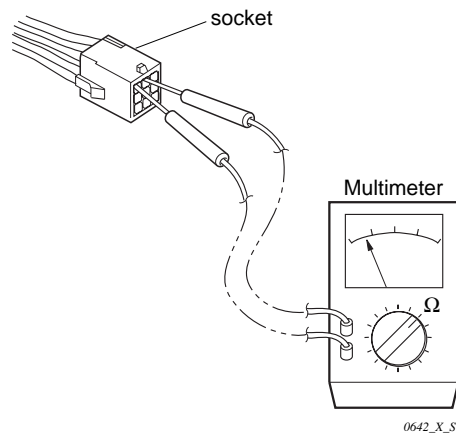

Fig. IV-18
- Then check continuity among plug's (and/or socket's) terminal as in **Fig. IV-18**.